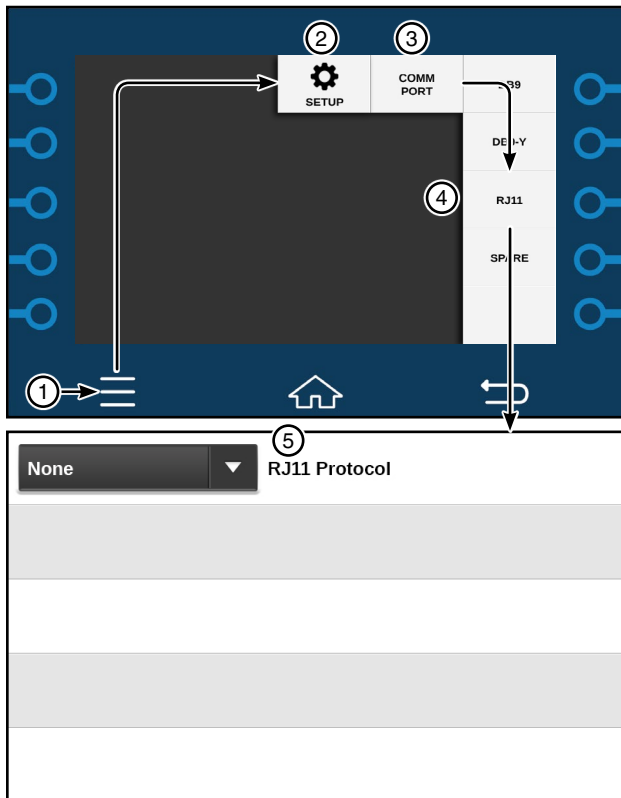

Figure 42-1 1. Menu 2. Setup 3. Comm Port 4. RJ11 5. RJ11 Protocol
- Check the **GPS V2** checkbox to enable position. See Figure 42-1.